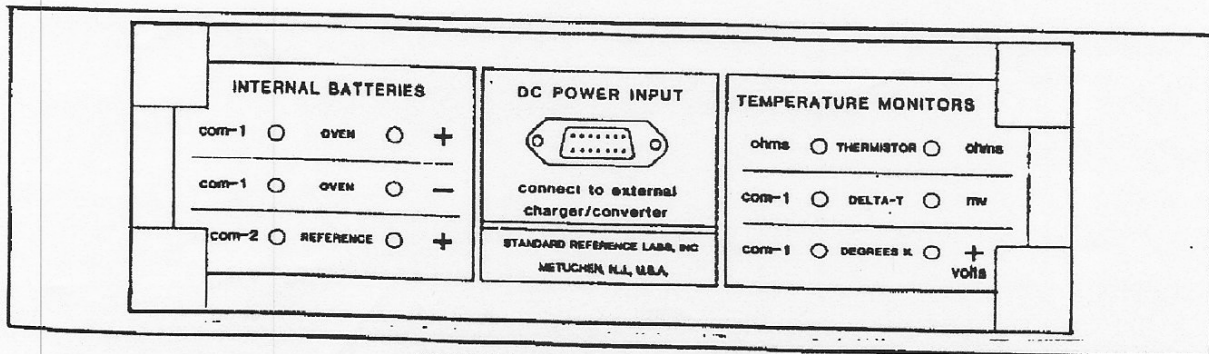

FIGURE 3-2. TRANCELL IV/SC REAR PANEL.
The reference module is driven by two (2) 12V, Type 1 batteries in series on multiple, diode-cell units and two 12V, Type 2 batteries in series on single diode-cell units. The reference module battery complement generates about 27 volts at the float charge level. Typical operating voltages range from about 22 to 27 volts. These values may be monitored on the rear panel pin jacks (see Figure 3-2.) In case of emergency these terminals can
Each Trancell unit is provided with pin jacks, located on the rear panel, to monitor the battery supply levels, the auxiliary thermistor resistance, and the oven Delta T and Degrees K temperature levels. Figure 3-2 shows the location of these jacks on the rear panels. Thermistor jacks are used to gain access to the resistance value of the thermistor, the value of which changes with temperature changes.